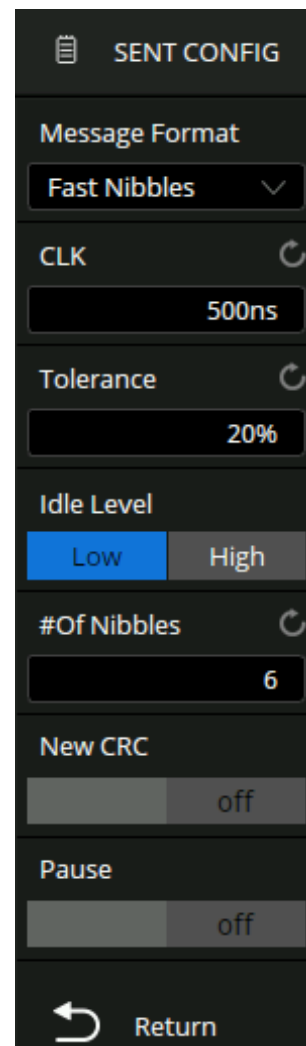

Figure 10.51
1. The **SENT CONFIG** menu will be displayed. (Figure 10.51)